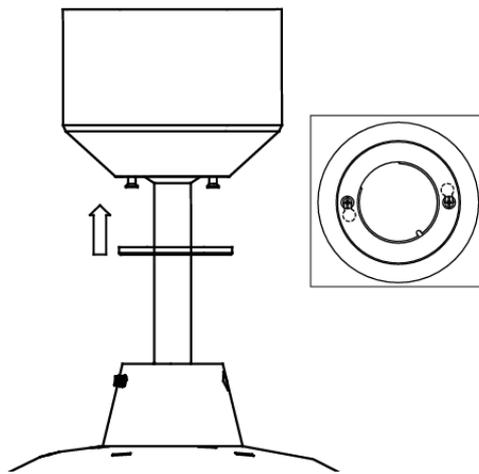

Fig.5
Cover the mounting bracket with the canopy cover. Ensure all electrical wirings are tucked inside the canopy and that they are not damaged during this step, and secure with screws. **Fig. 5**
- Finally secure the canopy cover to canopy screws via turn it clockwise. **Fig. 5**